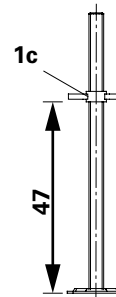

Fig. A2.04
- Instead of the Base Spindle UJB 38-50/30 (1a), the Base Spindle TR 38-70/50 (1c) with a maximum spindling length of 47 cm can also be used. (Fig. A2.04)